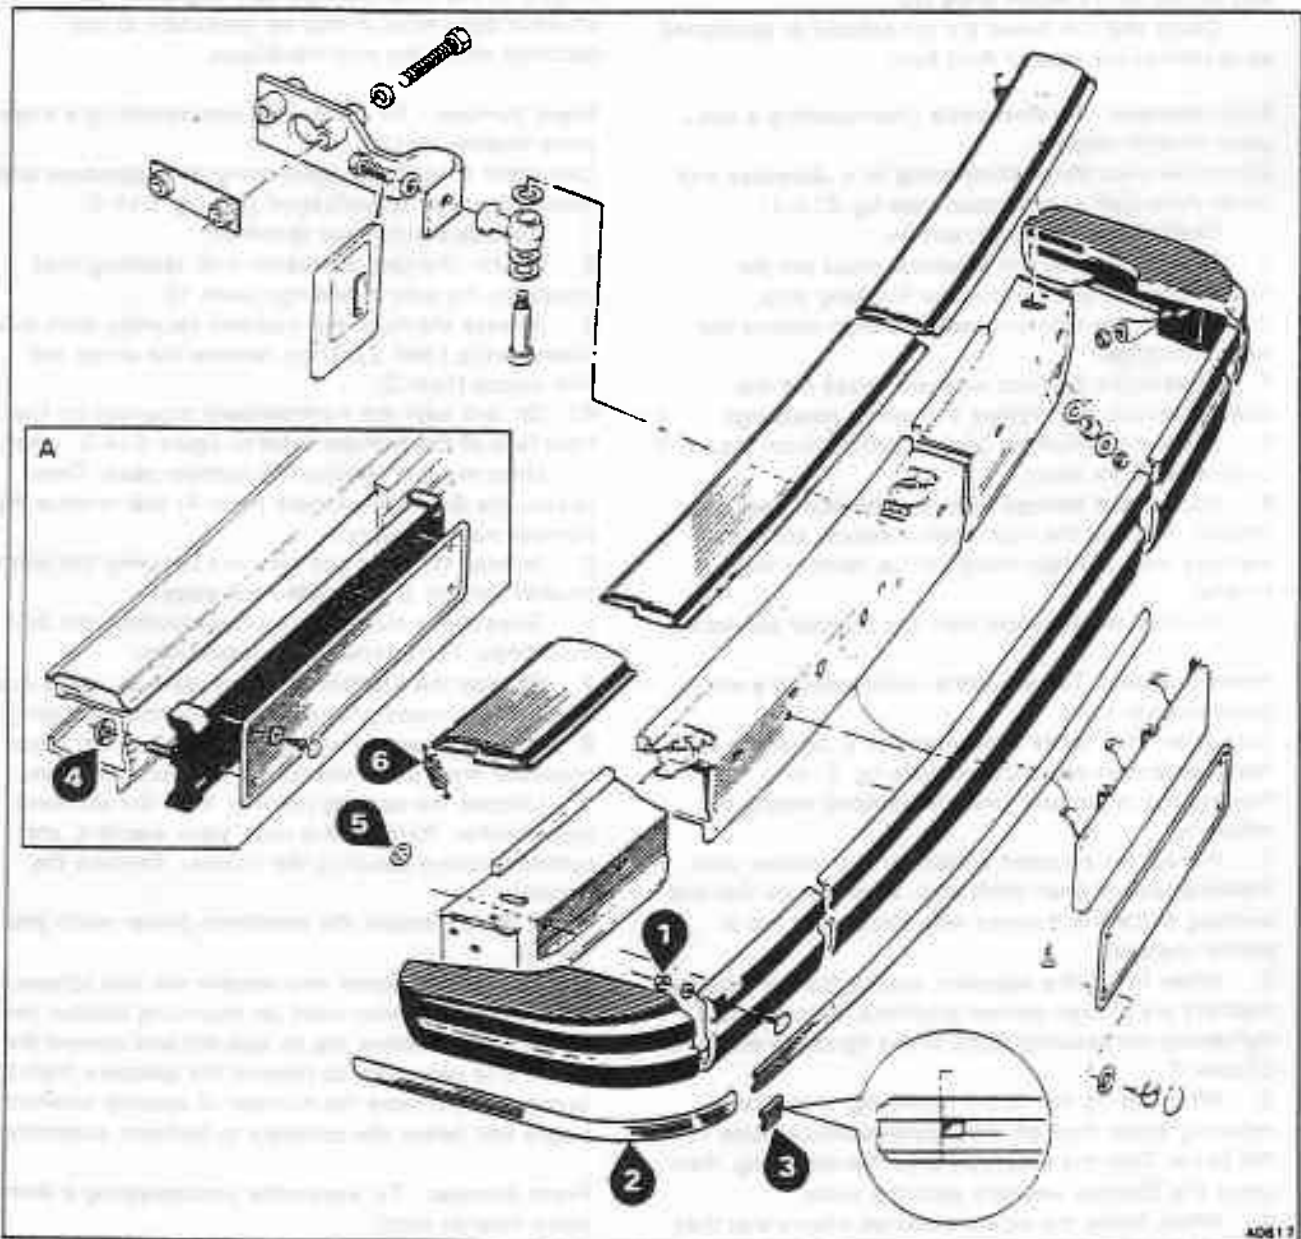

Fig. S14-6 Front bumper assembly
Cars other than those conforming to a Japanese and North American specification (see fig. S14-6)
2. Loosen the centre finisher strip retaining nuts closest to the side mouldings (item 1).
3. Release the nuts and washers securing each side finisher strip (item 2). Then, remove the strips and trim pieces (item 3).
4. On cars with the number plate mounted on the front face of the bumper refer to figure S14-6, inset A. Unscrew and remove the number plate. Then, release the Starlock washers (item 4) and remove the number plate surround.
7. Release the Starlock washers (item 5), press out the retaining studs and remove the centre moulding(s).
9. Unhook the springs (item 6) from the stainless steel finisher. Remove the nuts, plain washers, and rubber washers securing the finisher. Remove the finisher.